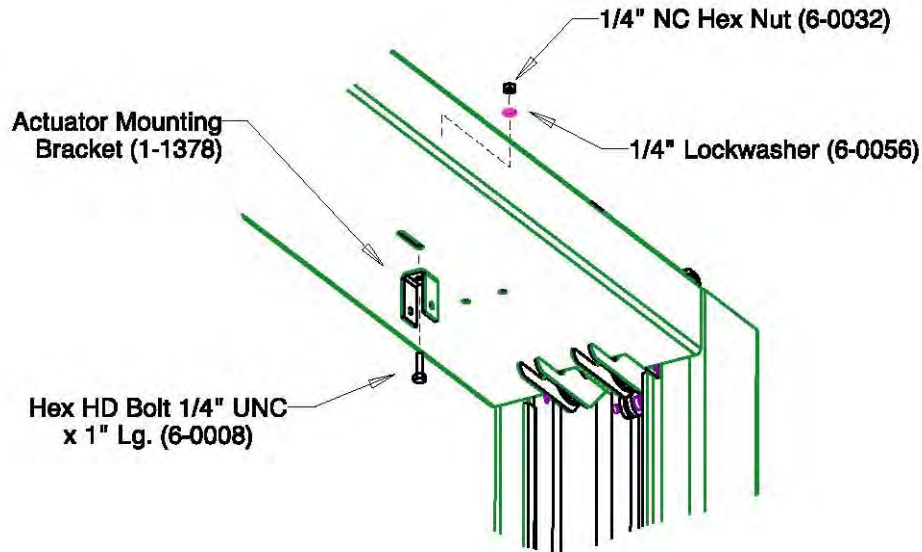

**Figure 5 – Crossmember Assembly**
4. Using a stepladder, install the crossmember using eight (8) 1/2"-16UNC x 1 1/2" lg. hex head bolts, eight (8) 1/2" ID lock washers, eight (8) 1/2" hex nuts and eight (8) 1/2" flat washers. See **Figure 5**.